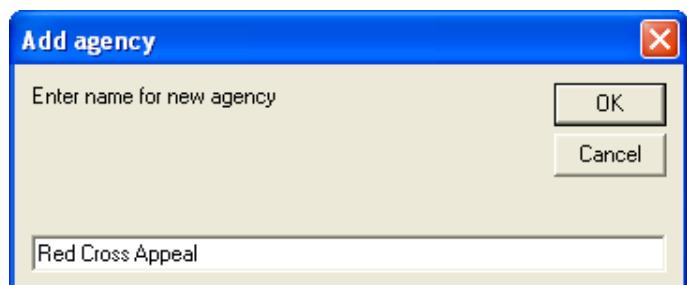

Figure 52
3. Enter the name for the new agency (as shown in Figure 52).